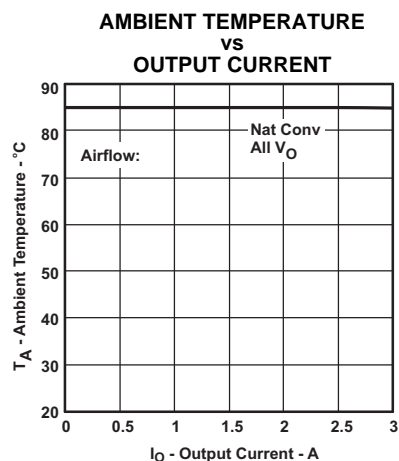

Figure 4.
- (2) The temperature derating curves represent the conditions at which internal components are at or below the manufacturer's maximum operating temperatures. Derating limits apply to modules soldered directly to a 100 mm x 100 mm double-sided PCB with 2 oz. copper. Applies to Figure 4.